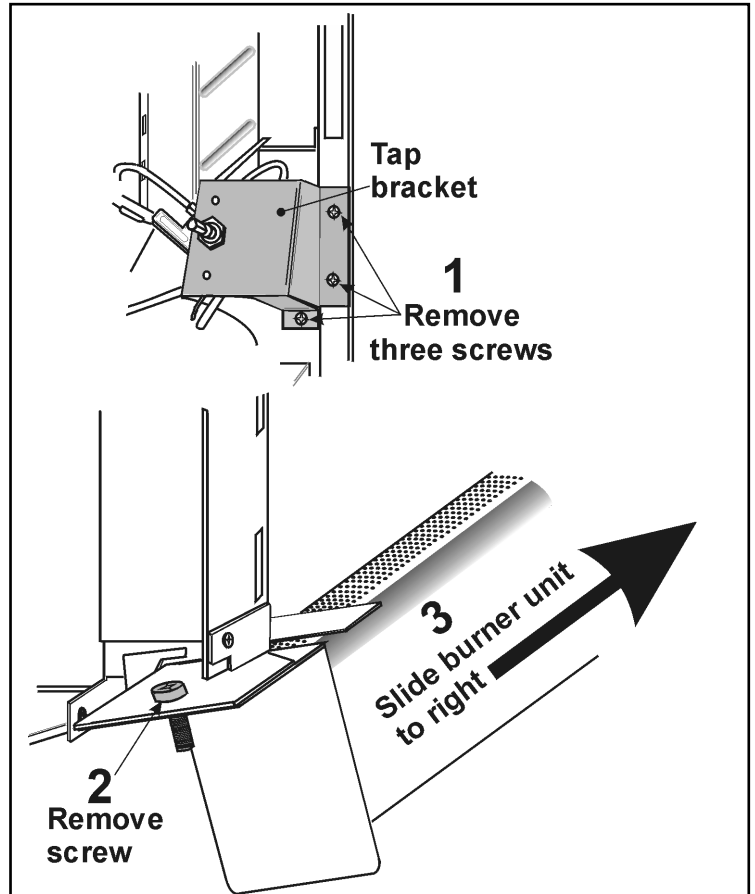

Figure 18. Burner module removal
4. Detach the gas tap bracket from the right side of the appliance by removing three screws (See figure 18).
5. Detach the left side of the burner from the firebox by removing one screw (See figure 18).
6. Free the burner & pilot module from the rear pilot air pipe and the firebox by carefully sliding the module to the right while pulling it slightly (See figures 18 and 19).